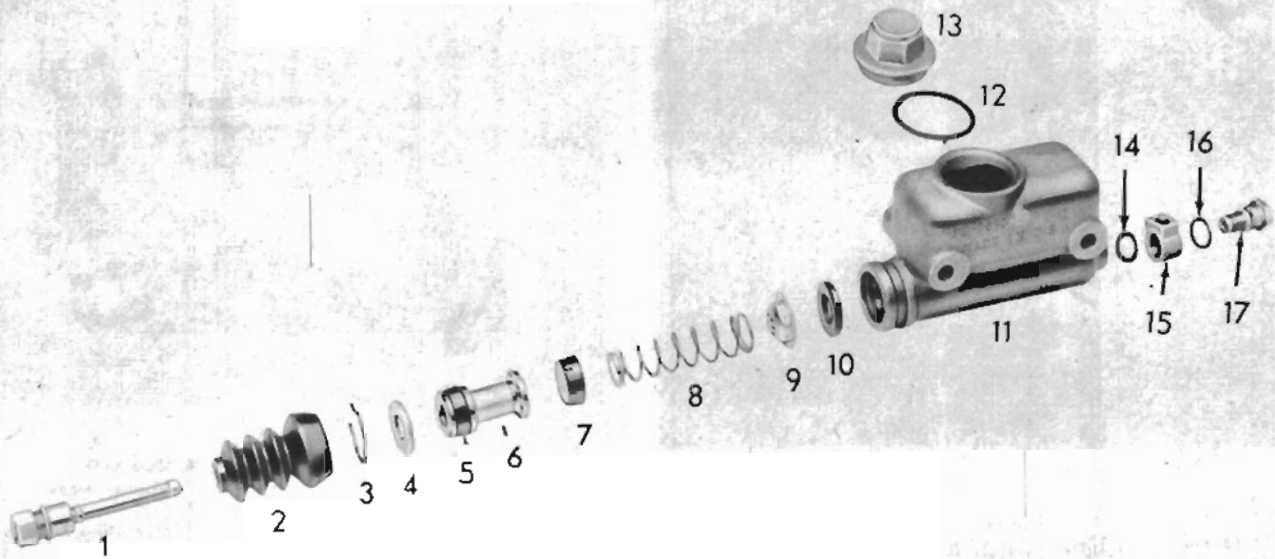

FIG. 4
To disassemble the unit, slip the large end of the rubber boot (2, Fig. 4) from the groove of the master cylinder housing (11), and remove the boot and push rod assembly. Remove the boot from the push rod (1) by lifting the small end of the boot from the groove in the push rod and then pushing the rod out of the boot.
Install the valve seat (10, Fig. 4), making sure that the radius on the seat faces the closed end of the cylinder. Install the check valve (9) on the return spring (8) and install in the cylinder bore. Install the secondary cup (5) on the piston (6). Place the primary cup (7) and the secondary cup and piston assembly in the master cylinder bore and install the piston stop (4) and piston stop lock wire (3). Be sure the stop lock wire is well seated in the groove. Install the boot (2) on the push rod (1) and install the assembly on the master cylinder. Install the filler plug and new gasket. Place the outlet fitting and new copper gaskets on the outlet fitting screw and install on the master cylinder.